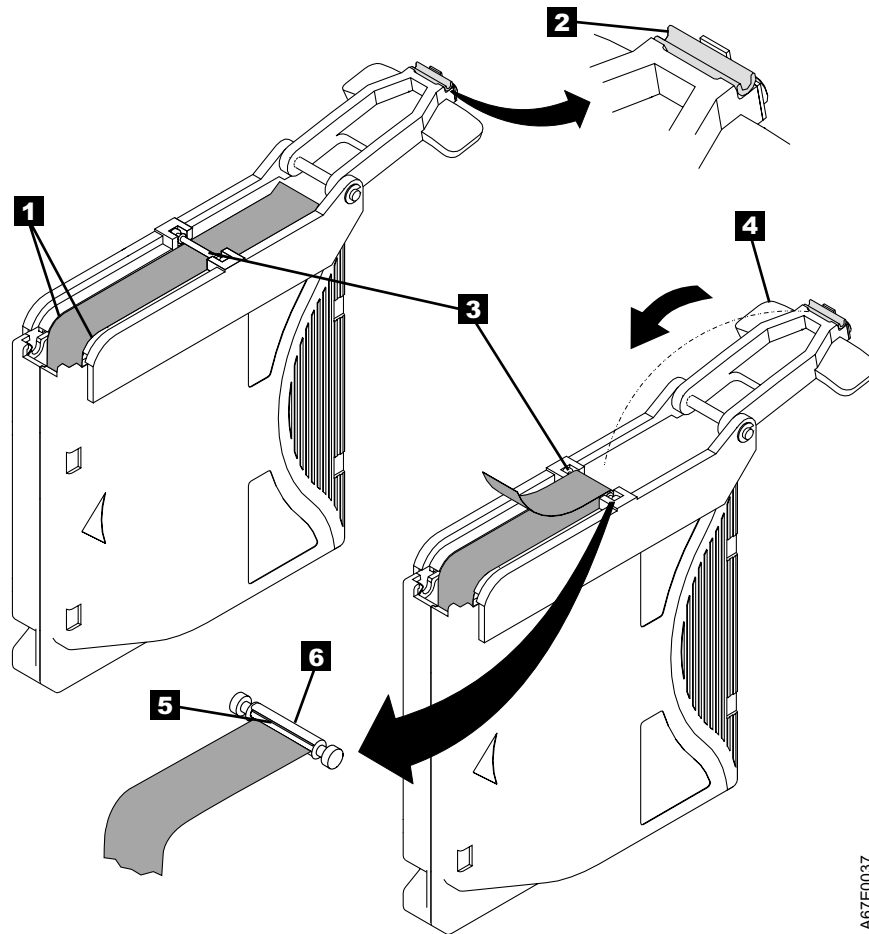

Figure 49. Attaching the leader pin to the tape
7. Position the tape in the alignment groove of the leader pin attach tool (see **1** in Figure 49).
8. Place a new C-clip into the retention groove **2** (Figure 49) on the leader pin attachment tool and make sure that the clip's open side faces up.
9. Place the leader pin (from step 6 on page 207) into the cavity **3** (Figure 49) of the leader pin attach tool.
10. Fold the tape over the leader pin and hold it with your fingers (see Figure 49).